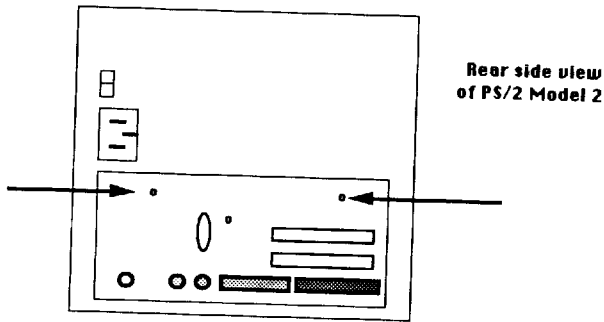

Figure 3
2. Place the PS/2 Model 25 with the screen facing down on a soft material, being careful not to scratch the face of the computer. Remove the two screws on the rear side of the computer, as shown below in Figure 3.